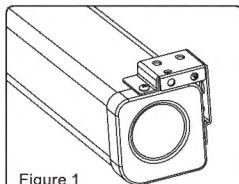

Figure 1
Using a tape measure find out the distance between the two keyholes on the casing (figure 1). According to the measurement, use the drill to drill identical holes of the appropriate size on the ceiling and ensure that it is level (figure 2 & 3) . Screw in the hook screws (not provided) , and lift the screen into the hook screws to hang (figure 4). To ensure that the screen is level, use a level to check (figure 5).
2. There are two ways for wall brackets to fix on the housing. As you can see on the figure 1, which is our normal fixed way (namely factory set). While the other fixed way is to interchange the left and right wall brackets, and then fix onto the housing (namely functional installation way, as figure 2).
Using a tape measure, measure the distance between the two keyholes on the casing (figure 1). According to the measurement, use the drill to drill identical holes of the appropriate size on the wall (use a smaller drill bit than the actual screws) and ensure that it is level (figure 2 & 3). Screw in the appropriate screws, either 5 x 40 by itself for wood walls or with anchors for drywalls, leaving enough space at the end to hang the casing (figure 4). To ensure that the screen is level, use a level to check (figure 5).
Using a tape measure find out the distance between the two keyholes on the casing (figure 1). According to the measurement, use the drill to drill identical holes of the appropriate size on the ceiling and ensure that it is level (figure 2 & 3). Screw in the hook screws (not provided), and lift the screen into the hook screws to hang (figure 4). To ensure that the screen is level, use a level to check (figure 5).